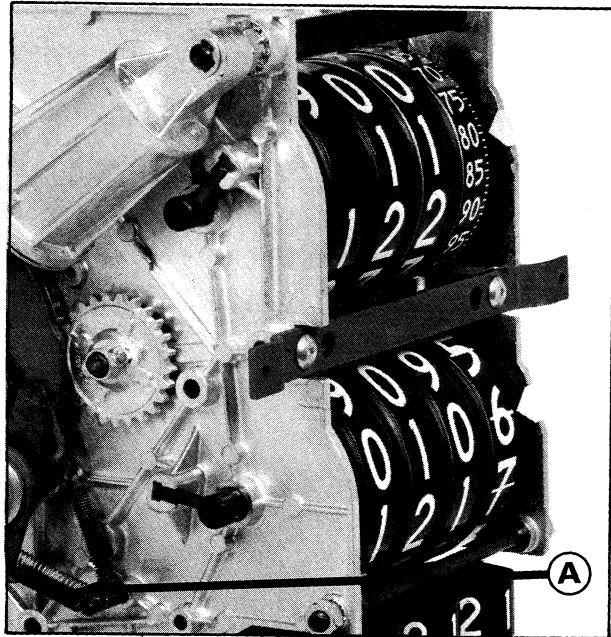

Figure 51.
A. Clean plunger (A) or if this does not correct condition, replace wheel.
6. Pump Actuating Handle Cannot be Turned "On" (Figure 51).